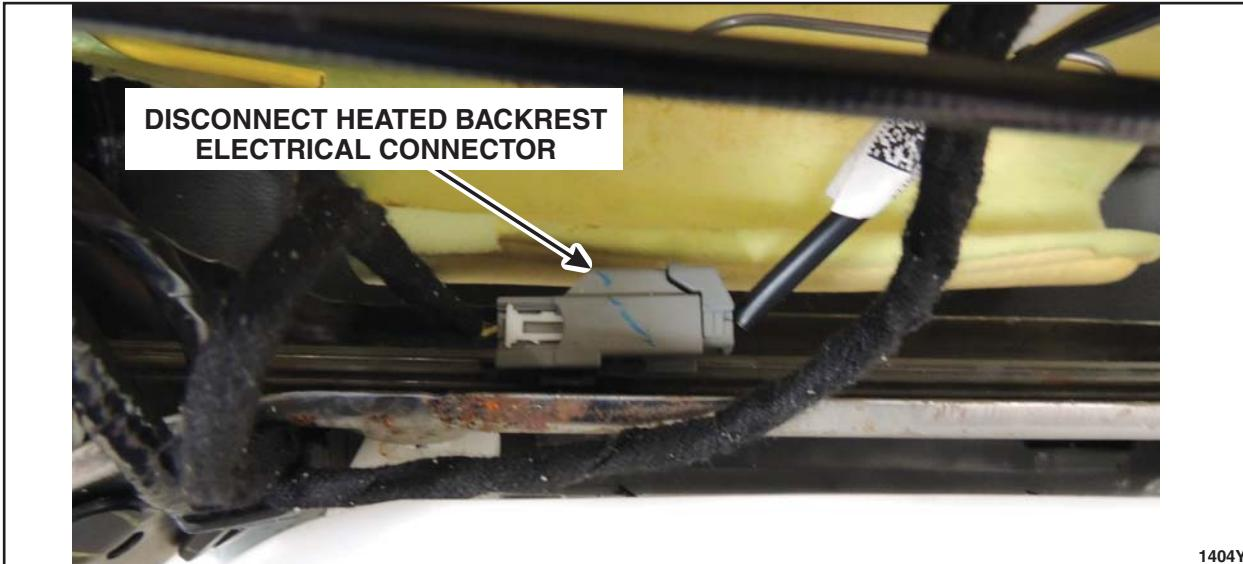

FIGURE 12
15. If equipped, disconnect the heated seat backrest electrical connector and detach the connector from the seatback frame. See Figure 12.